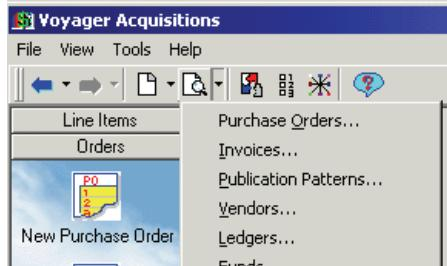

Figure 2-1. Search button drop-down list
- Click the down arrow beside the **Search** button on the **Acquisitions** toolbar, then click the relevant search item from the drop-down menu (see Figure 2-1)